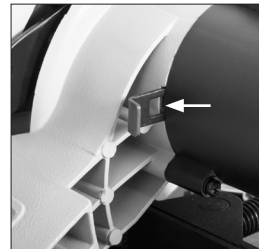

Fig. 3
- Engage the Arbor Lock by pressing the arbor lock button. **(Fig. 3)**